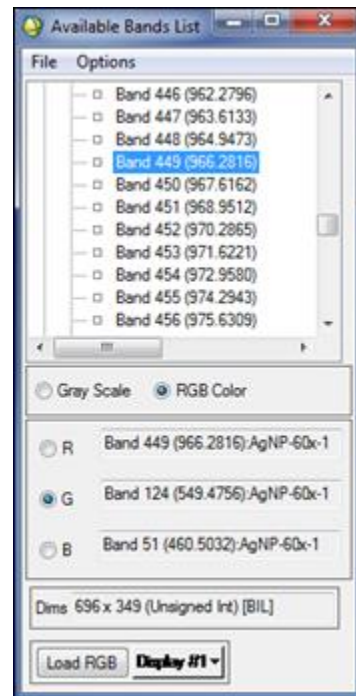

Figure 2.5b. Automatic RGB bands
- When you are done selecting the bands, press the Load RGB button (Figure 2.5b).